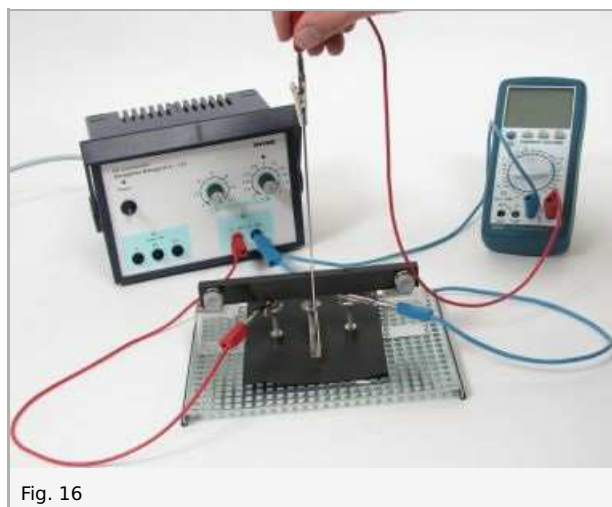

Fig. 16
- Scan the rod electrode with the knitting needle and measure its electric potential in different points on the surface (Fig. 16).